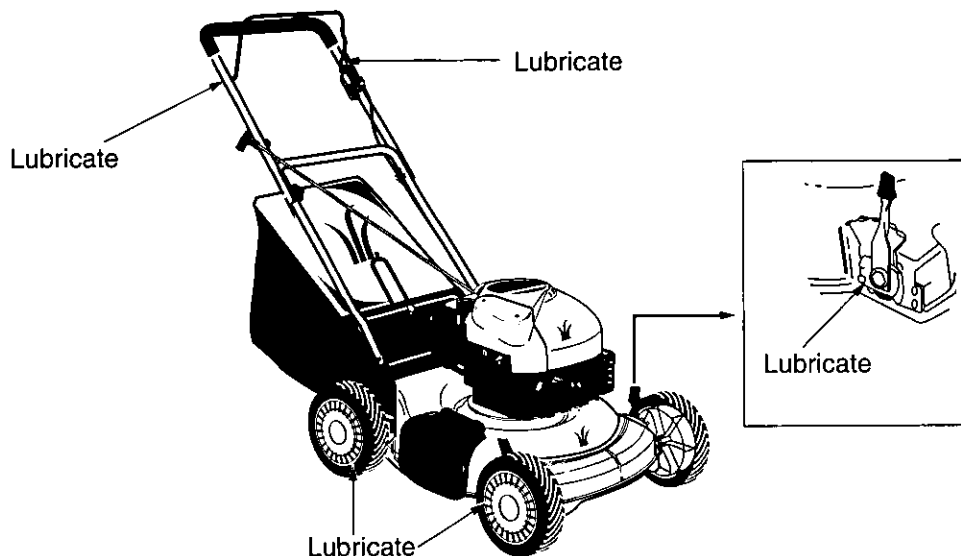

FIGURE 9
For complete lubrication chart, see Figure 9.
- Lubricate mower following the lubrication chart in Figure 9 on page 11.